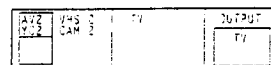

Fig. 44.
- 3 Select the desired source with $\Delta+$ or $\nabla-$. (See Fig. 44)